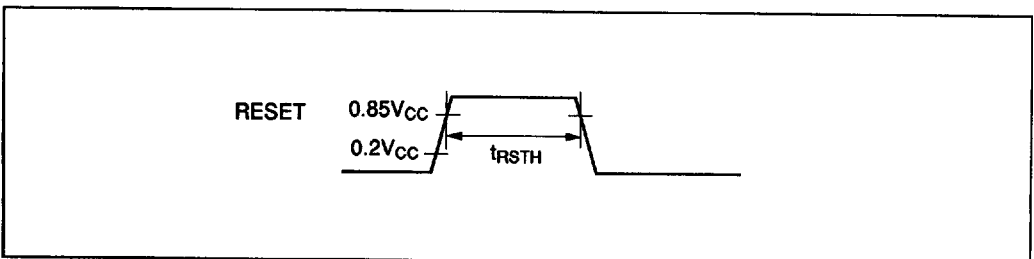

Figure 72 Reset Timing
5. Refer to figure 72. The MCU will malfunction if noise interferes with the falling edge of the RESET signal when releasing from reset state. The reset circuit must be sufficiently evaluated in the application system.